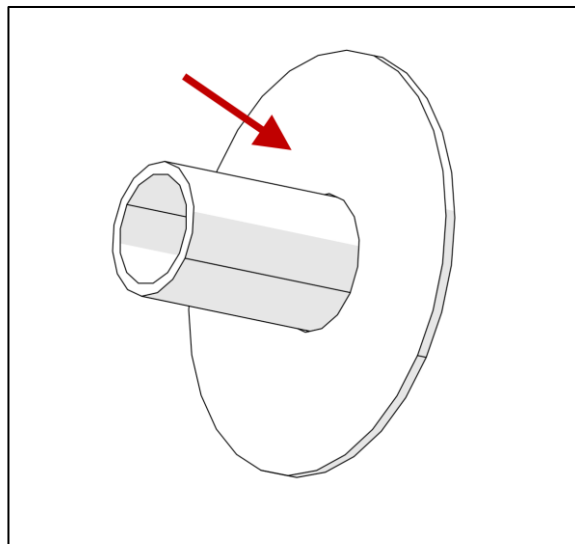

FIGURE 17
22. On the flange assembly, roughen the mounting surface with paper sand, a Scotch Brite or small polishing tool to improve adhesion of the glue (Figure 17). The mounting surface is on the longer tube side.